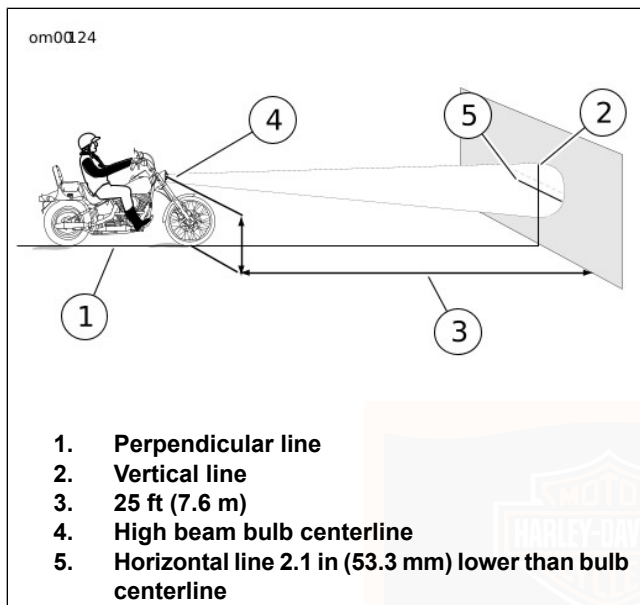

Figure 42. Headlamp Alignment
See Figure 42. Draw a perpendicular line (1) on the floor. For best results, choose an area with minimum light.
4. Draw a vertical line (2) on the wall.